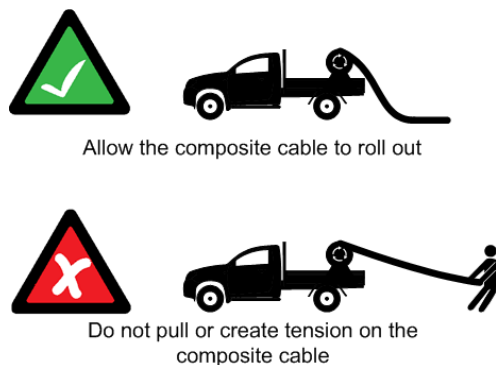

Figure 13: Handling composite cable
- Never pull or create tension on the cable. Unreel the cable from the cable reel, or allow the weight of the cable to unreel as the vehicle is moving as shown in Figure 13: Handling composite cable.